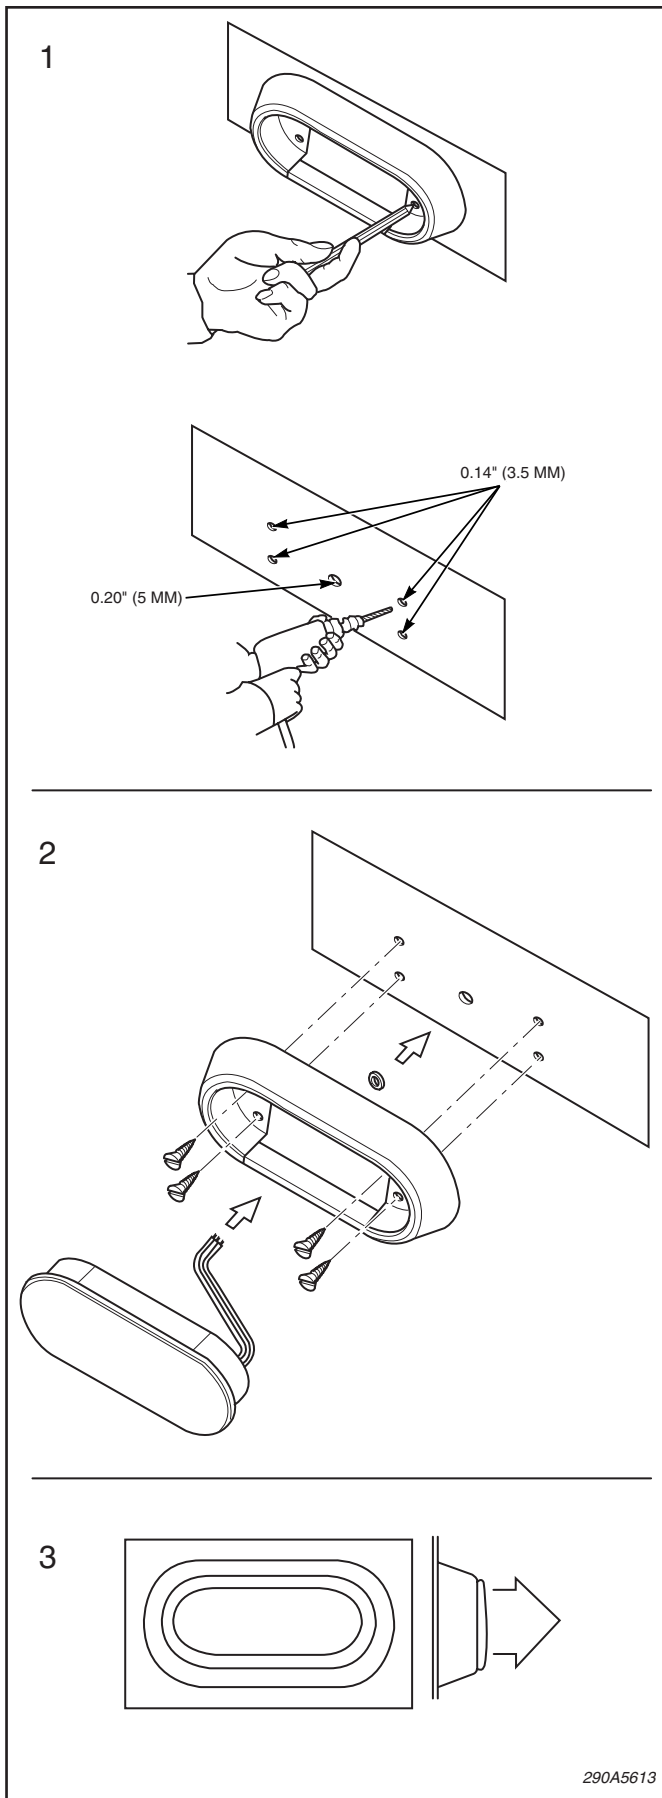

Figure 1.
2. Using figure 1 as a guide and the Surface Mount Bezel (FS #330501) as a template, scribe the mounting hole locations on the mounting surface. Scribe a wire routing hole location on the mounting surface in the center of the Bezel.